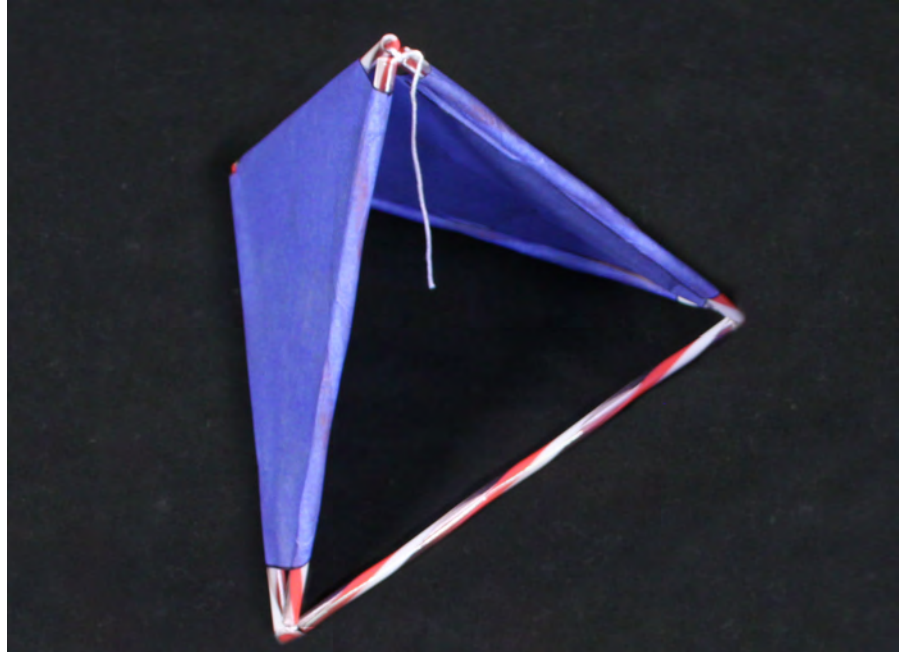

Fig. 14 Covered tetrahedron
6. Fold these flaps over the straws for a tight fit. See picture below (figure 14):